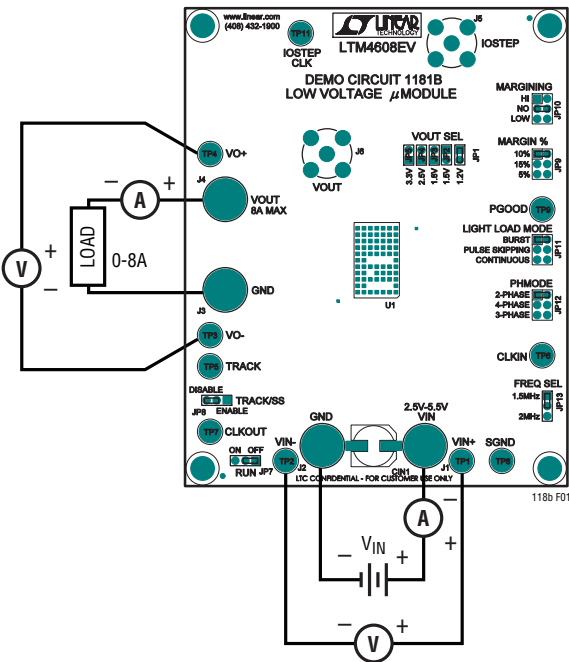

Figure 1. Test Setup of DC1181B
Demonstration circuit DC1181B is easy to set up to evaluate the performance of the LTM4608EV. Please refer to Figure 1 for proper measurement equipment setup and follow the procedure below:
2. With power off, connect the input power supply, load and meters as shown in Figure 1. Preset the load to 0A and V_{IN} supply to be less than 5.5V.